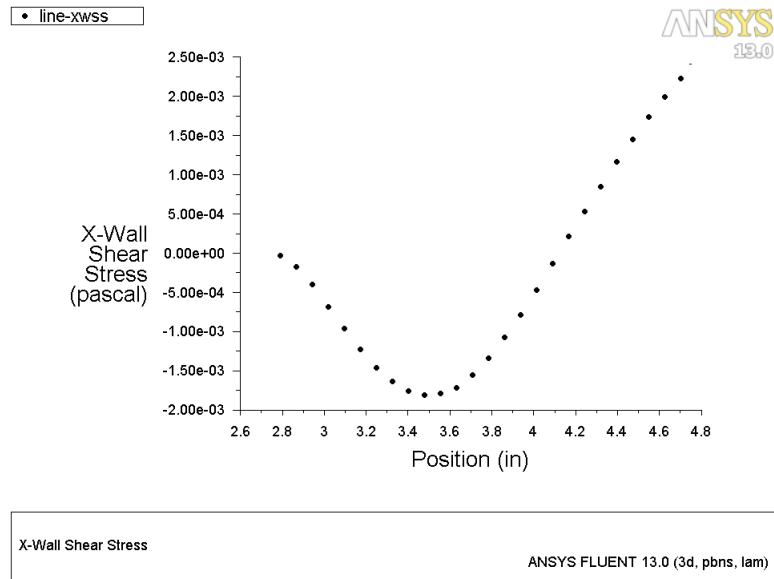

Figure 7: X-Wall Shear Stress Profile Downstream of the Chip
- (e) Select **line-xwss** from the **Surfaces** selection list and click **Plot** (Figure 7).